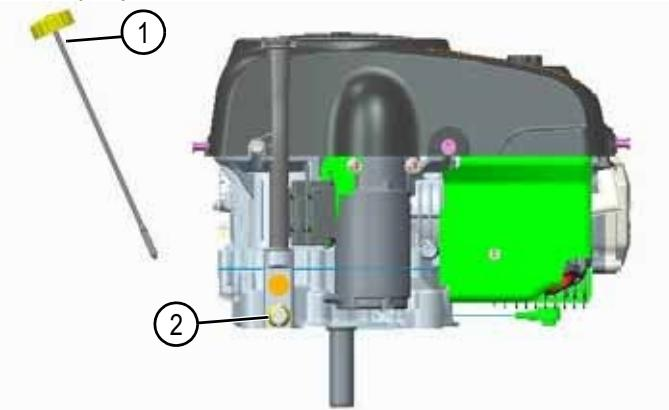

Figure 3-1: Oil Drain Bolt and Dipstick
1. See Figure 3-1. Clean the area around oil filter cap/dipstick and oil drain bolt.